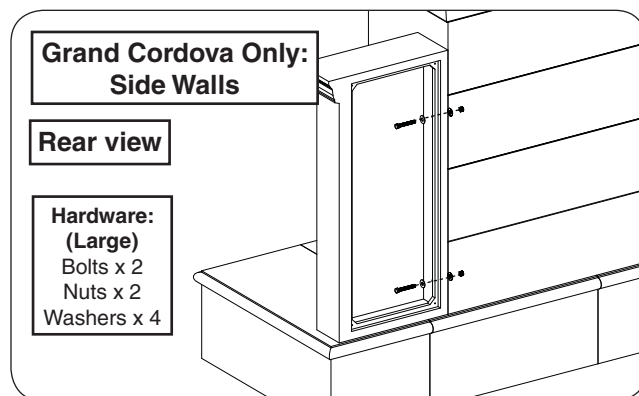

Fig. 18-1 Assemble side-wall (skip if n/a)
1. Place one main side-wall piece beside the fireplace body as shown. Carefully align the pilot holes, and repeat the hardware installation process. See Fig. 18-1.